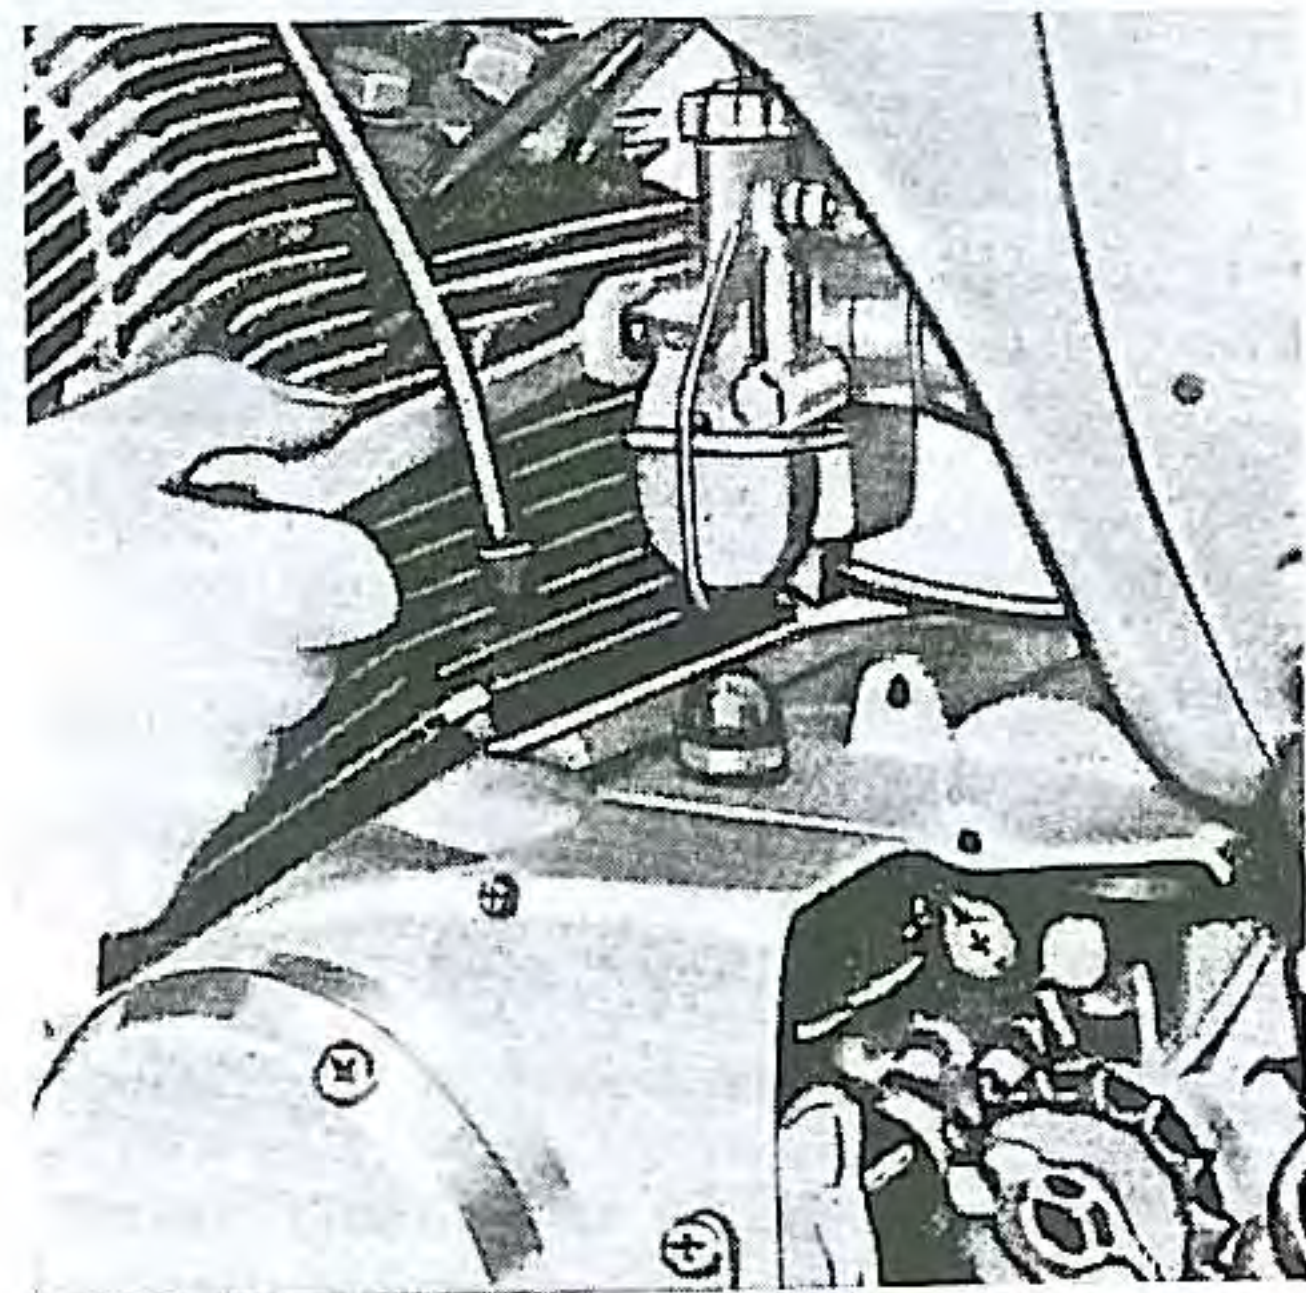

Fig. 15. Unscrewing carburettor mounting nut
- (7) Separate the carburettor by unscrewing the mounting nut on the cylinder head. (Fig. 15)